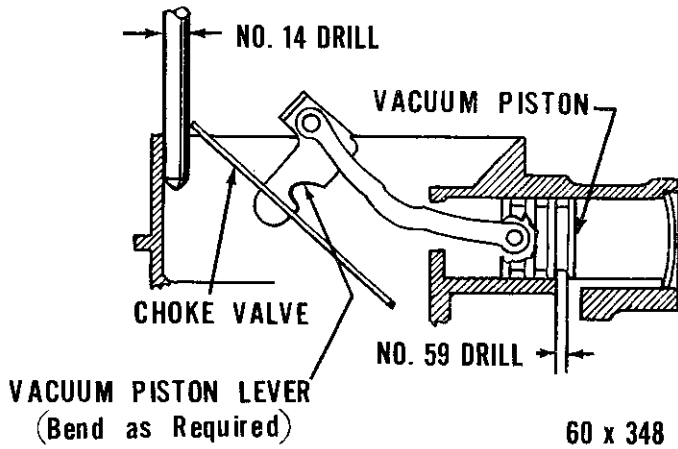

Fig. 30—Vacuum Kick Setting
(1) Insert a #59 drill in the top of groove of the vacuum piston, as shown in Figure 30. Apply light closing pressure against the choke valve (to take up slack in parts). It should be possible to insert a #14 drill between the air horn and choke valve. If an adjustment is necessary, bend the ear on the bracket as shown, until correct opening has been obtained.
(2) Install the air horn assembly on the main body, guiding the pump plunger into its well (Fig.